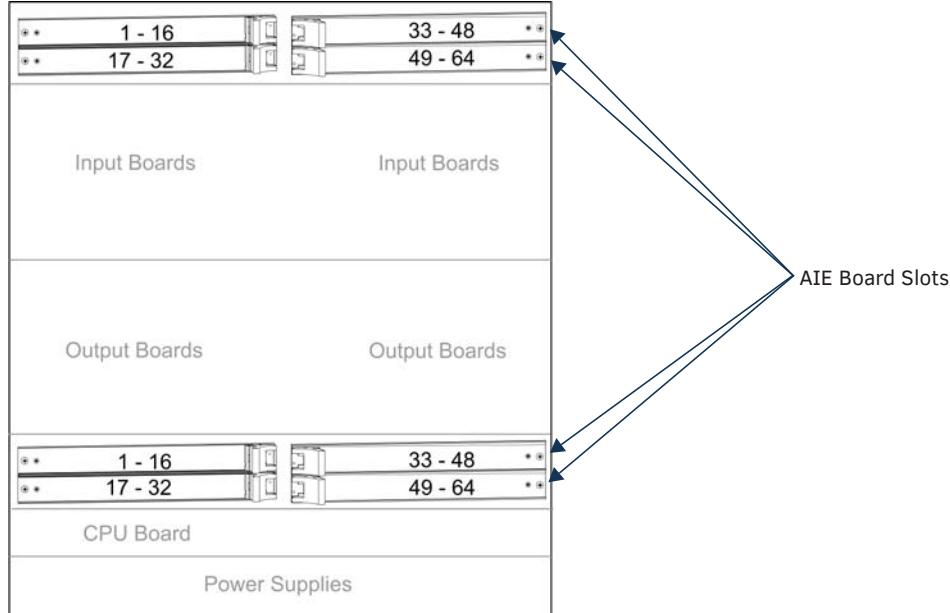

FIG. 91 AIE Board slot numbering on Enova DGX 6400
1. Check the numbering on the overlay to determine which board it applies to (see numbering in FIG. 91 on the next page).